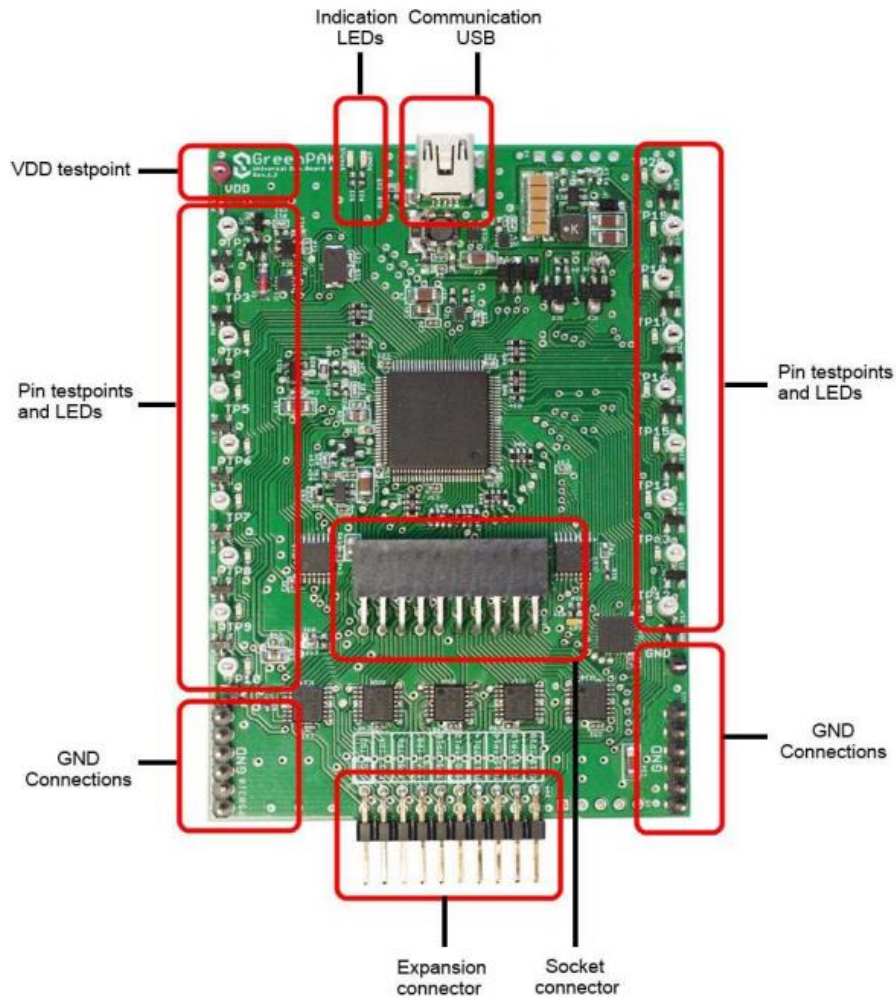

Figure 10. Build and Download the Project
- Figure 10. Build and Download the Project9
- b. Connect the socket adapter (including blank chip) to the “GreenPAK Universal Development Board”. (see Figure 10)